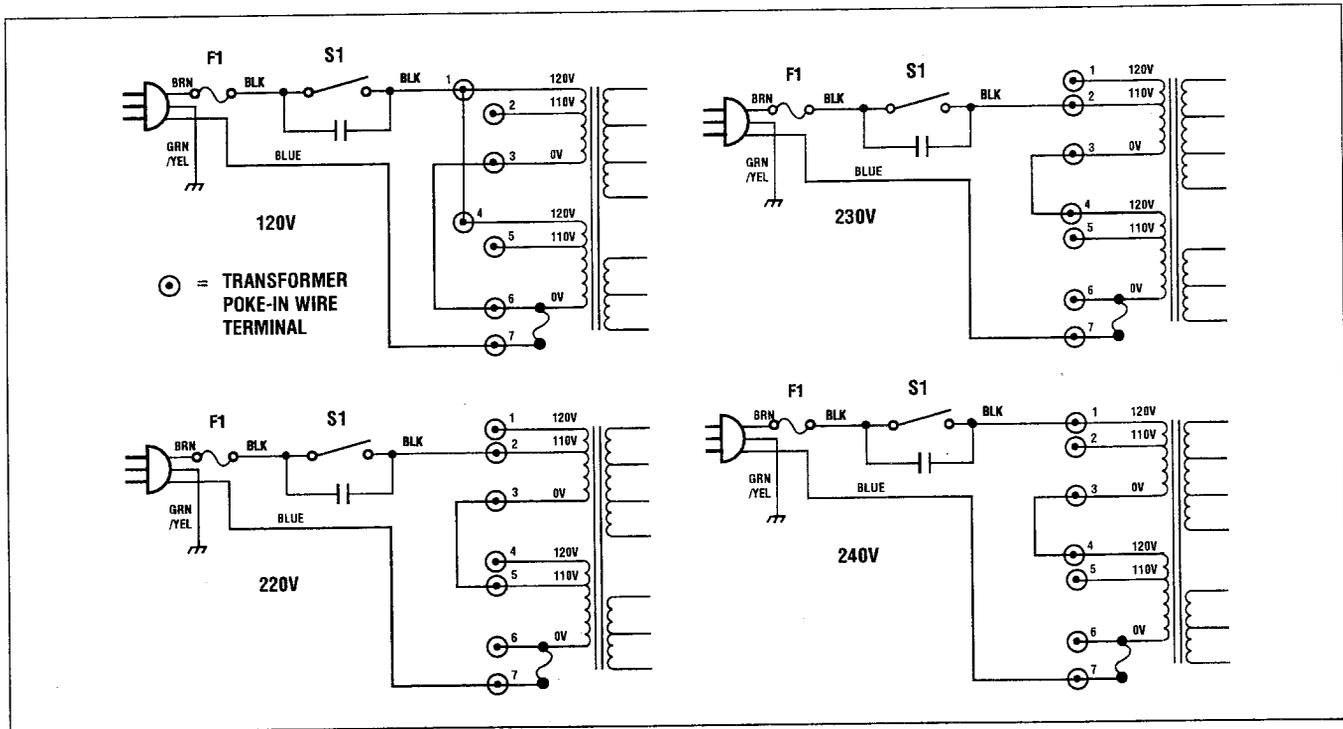

Figure 10. Line Voltage Conversion, International Units
The primary winding of the power transformer is tapped to permit operation from 120/220/230 or 240 VAC, 50/60 Hz line voltage. Conversion from one line voltage to another is done by a simple wiring change as shown in Fig. 10.
3. Rewire the power transformer to the desired line voltage as shown in Fig. 10.